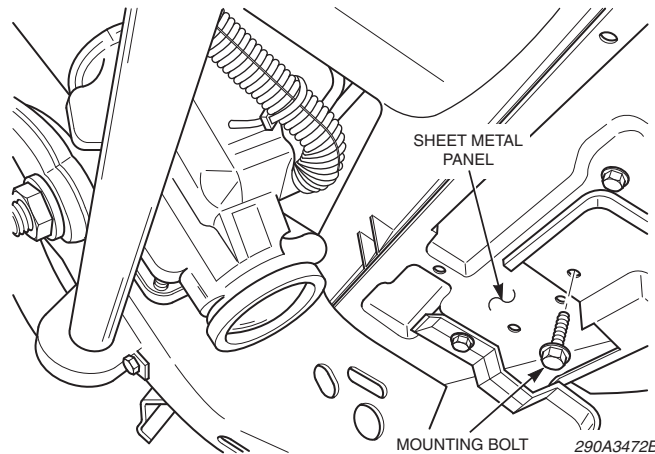

Figure 3: Screw to plastic shield behind bumper
1. Locate, remove, and retain the screw that secures the plastic shield behind the bumper and in front of the steering box (*Figure 3* on page 6).